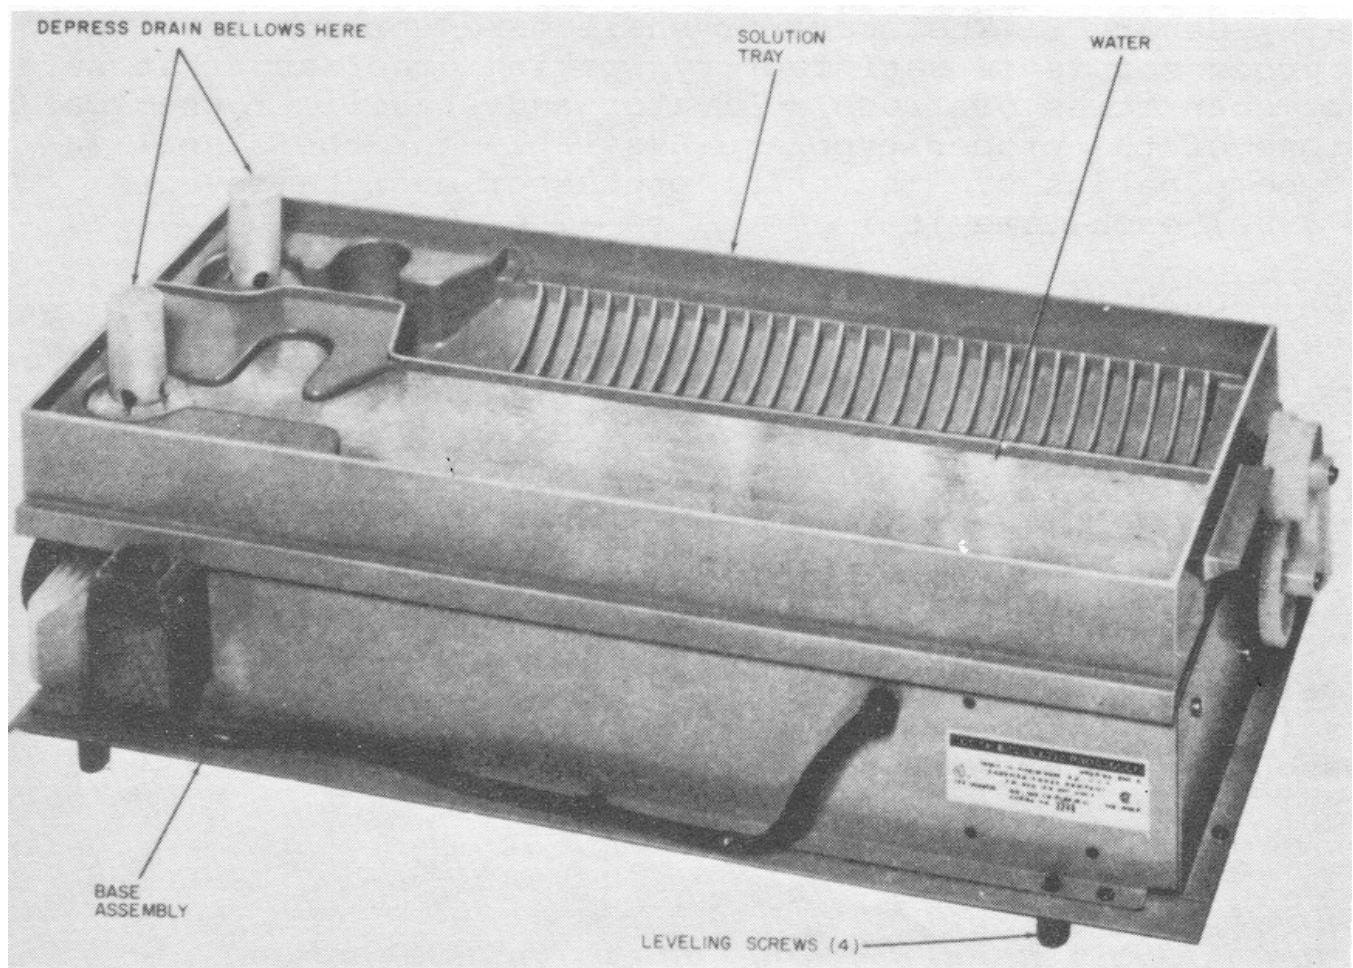
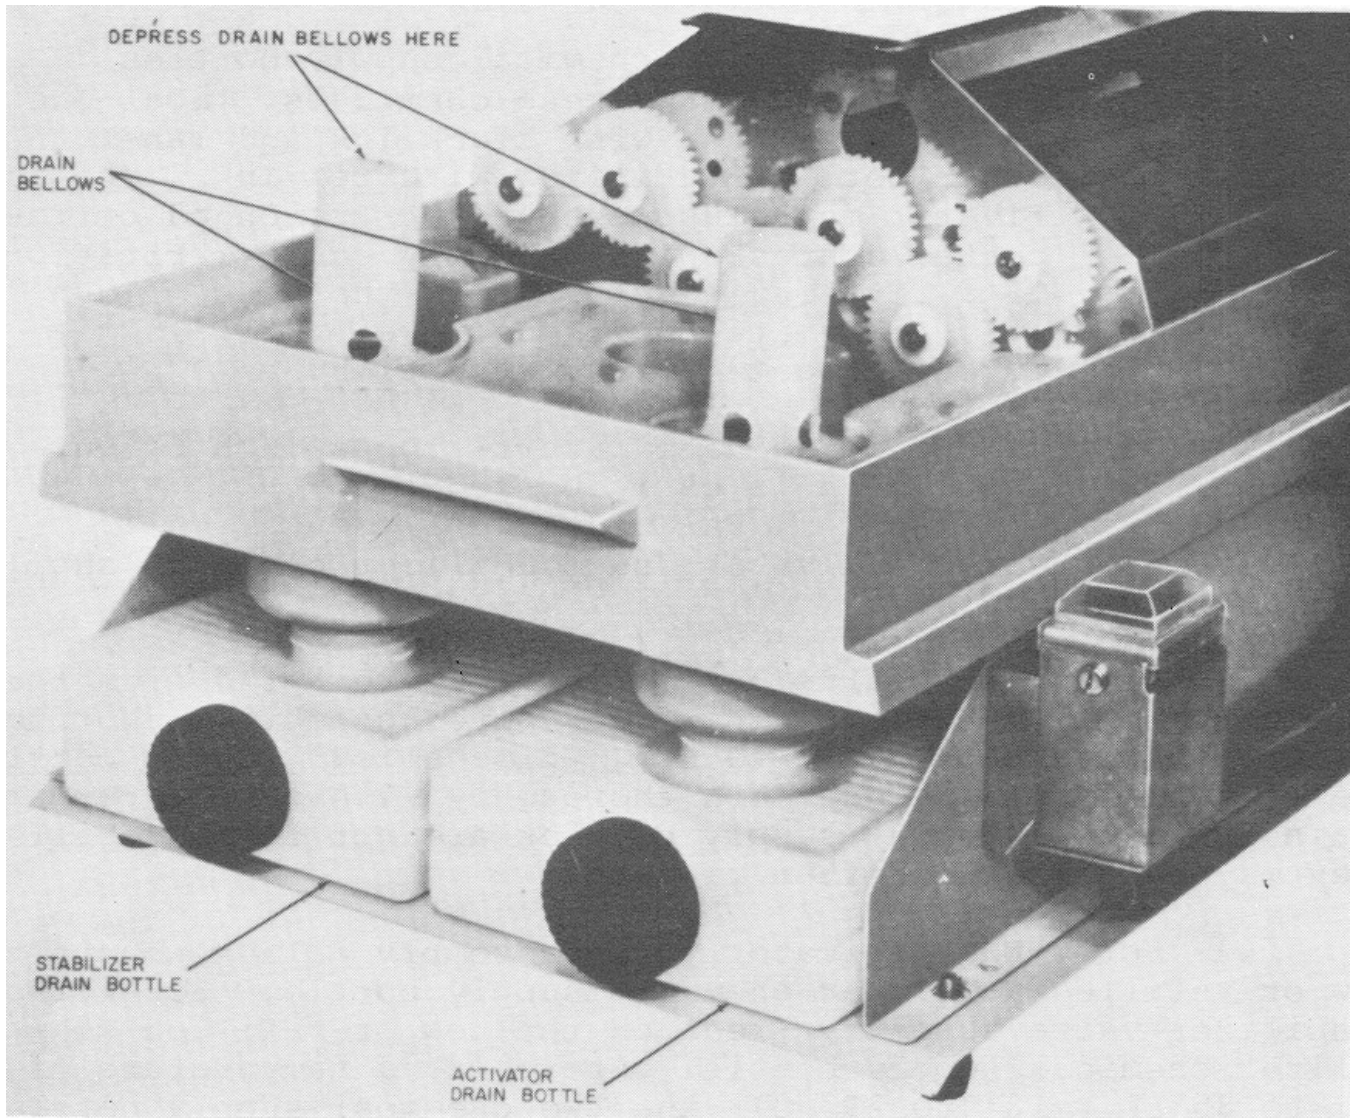

FIGURE 3-14. Leveling print processor.
FIGURE 3-16. Emptying drain bottles.
(2) Fill the front section of the solution tray with water (figure 3-14) and adjust the leveling screws until the water is at the same height along the entire length of the center partition.
(3) Front to rear adjustment can be checked by comparing the water level against the height of the flat surfaces near the front drain bellows.
(4) Drain the water from the tray by depressing the drain bellows (figure 3-16).
(5) Remove the solution tray and empty the activator drain bottle.
(6) Replace the drain bottle and solution tray (para 3-6a and b) and reassemble the print processor (para 3-6).
(7) If the print processor is supplied as part of the ES-82A, refer to TM 11-6780-225-12, Appendix A.
(7) Depress and hold down the drain bellows, as shown in figure 3-16, until both used chemical solutions have drained from the solution tray into their respective drain bottles.